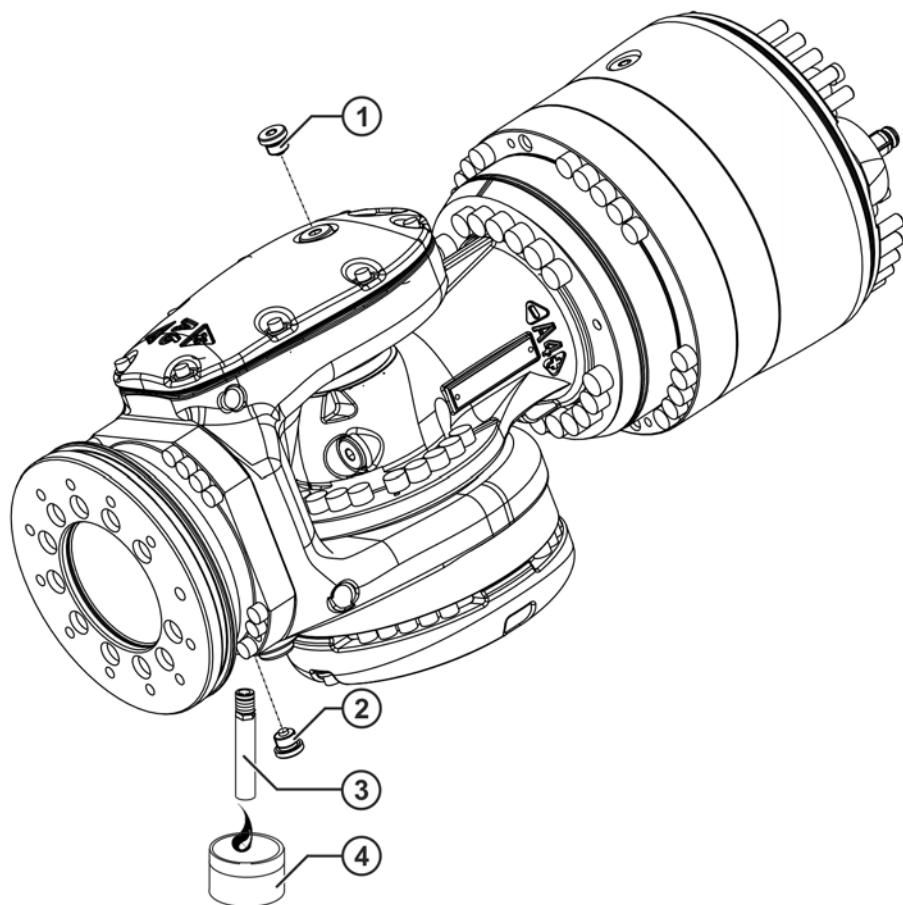

Fig. 9-13: Draining the oil from A6
2. Place a suitable receptacle (>>> Fig. 9-13) under the lower magnetic screw plug and remove the magnetic screw plug.